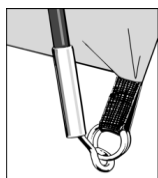

Figure 1
4. Locate one end of each diagonal pole onto pin system at flysheet corners (see figure 1).